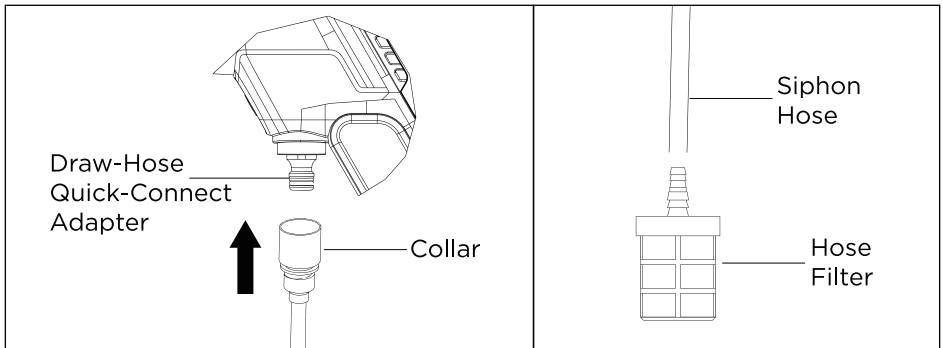

Fig. 3
CONNECTING THE DRAW HOSE TO THE POWER CLEANER (Fig. 3)
3. Push the collar onto the quick-connect adapter until it clicks securely into place. (Fig. 3)